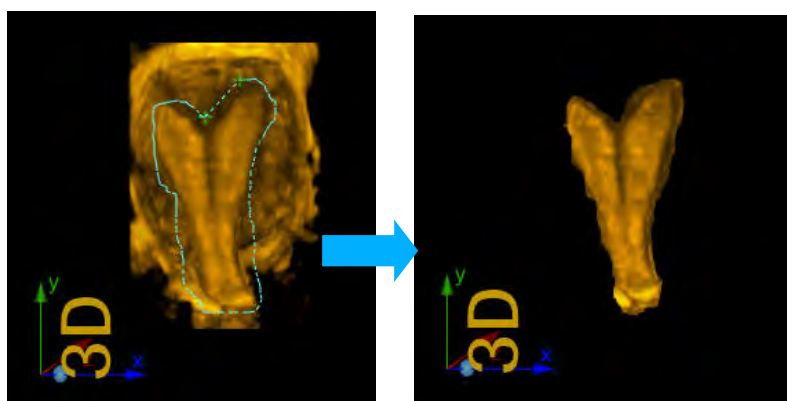

Figure 255: Outside cut
- b) **Outside:** To retain the selected area and cut out the outside. Click on **Set** to release the cursor, use the trackball to move the cursor over **Outside** and click on **Set** to select it; move the cursor to the 4D image and drag the area to retain the **Trace** measurement, as shown in Figure 255 on the left. Click on **Set**; the outside area is cut out and the selected area is displayed on the screen, as shown in Figure 255 on the right.